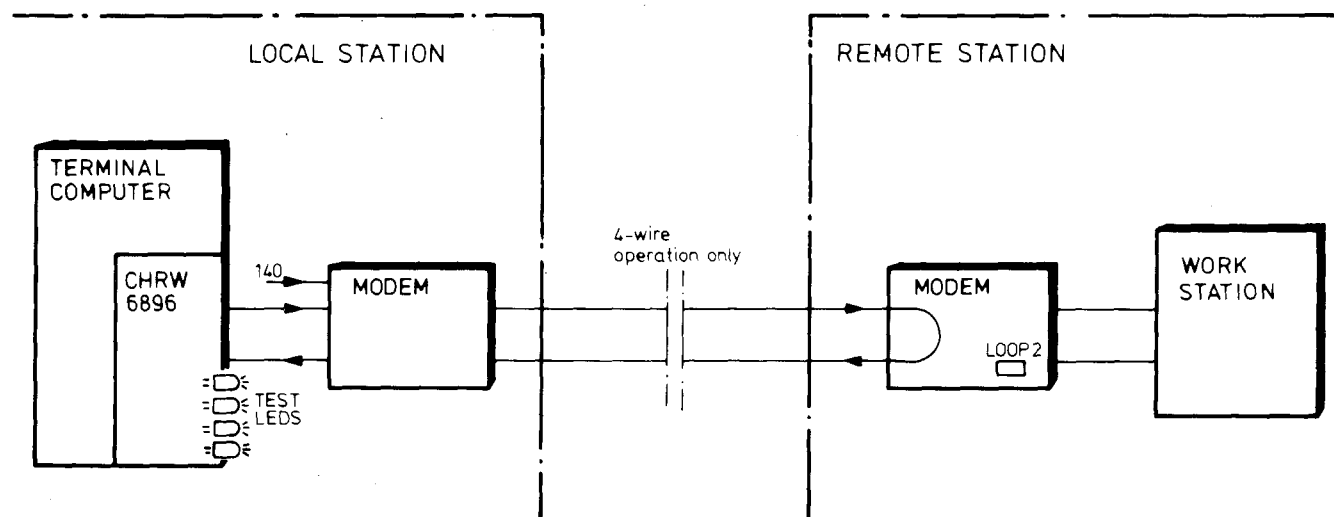

Figure 26.20 REMOTE MODEM TEST, LOOP-2, LOCAL SET
2. Switch "REMOTE LOOP-2" on the front panel of the Local modem. With this test the backward channel, implemented in the modem is used. See figure 26.20 Remote modem test, LOOP-2, local set.